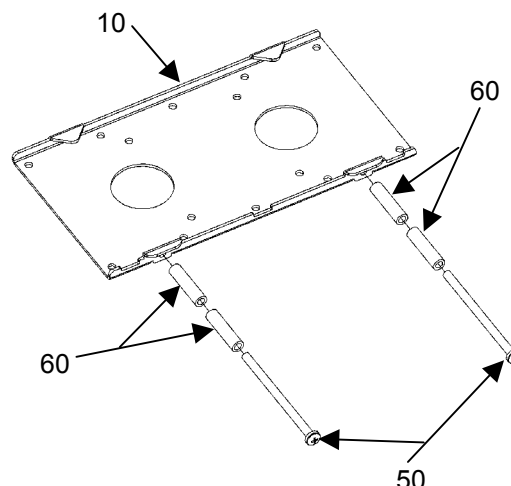

Figure 3. Installing Long Locking Screws with Spacers
- To install long locking screws, use two M5 x 80mm screws (50) and four 1-1/4 inch spacers (60). Refer to Figure 3.
1. Locate VESA bracket (10), two spacers (60), and two M5 x 80mm screws (50) provided with the kit contents (see Figure 3).
2. Install two spacers (60) on each of the two screws (50).
3. Insert the two screws into the threaded holes at the bottom of the VESA bracket (10). Turn the screws just enough to remain threaded in the holes. The screws will be tightened later.